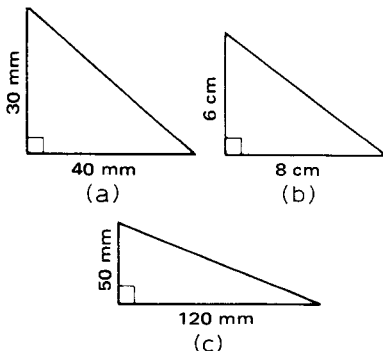

Fig. 1.83
5. Find the length of the hypotenuse for each of the right-angled triangles shown in Fig. 1.83.